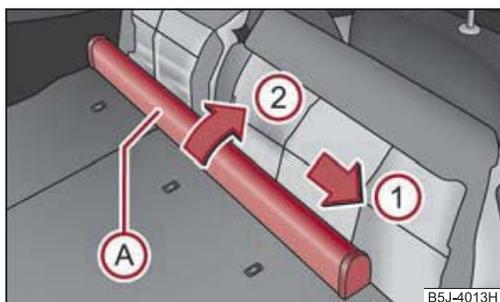

Fig. 68 Rear seats: Luggage net partition housing
- Push the rear bulkhead (A) ⇒ fig. 68 in the direction of arrow (1) and take it out of the mounts of the rear seat backrests on the right in the direction of arrow (2).